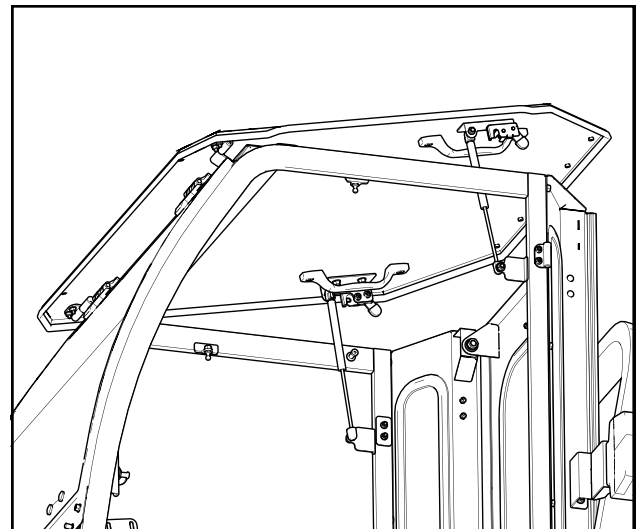

Fig. 14.2 (Roof Gas Shock Installation)
14.2 Disengage the roof latches, manually lift the roof, and install the gas shocks. See Fig. 14.2. *Note: Orient the gas shocks so that the piston rod is pointing down for best, continuous seal lubrication and longest gas shock life.*